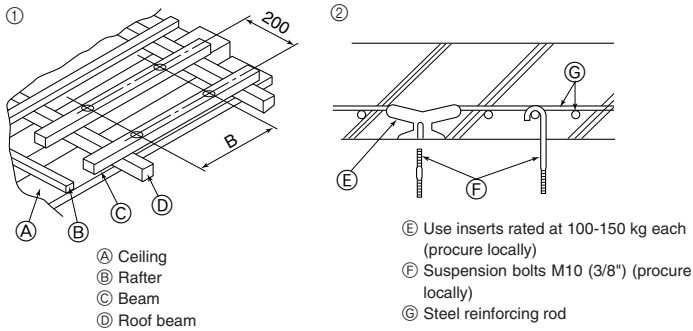

Fig. 3-3
3.3. Suspension structure (Give site of suspension strong structure) (Fig. 3-3)
- ① Wooden structures